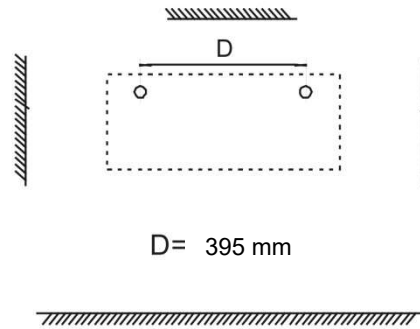

Figure 2
2. Drill two holes on the wall that are suitably sized for inserting the  $\varnothing 8$  mm Fischer screw plugs. (figure 2) – D=395 mm